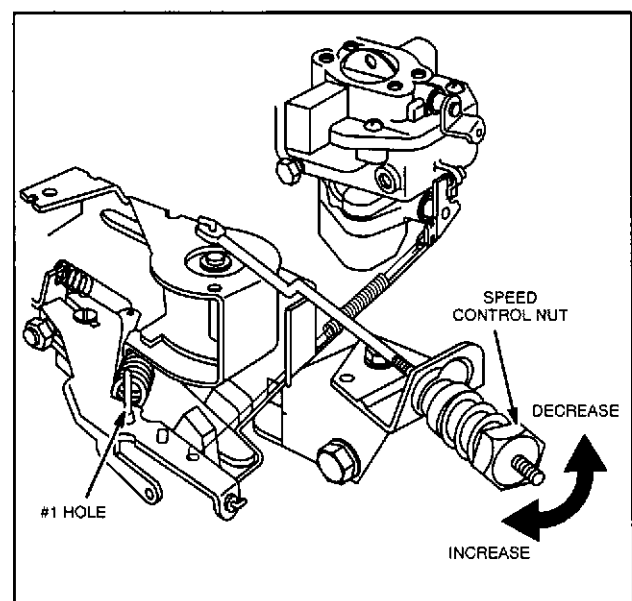

Fig. 18 - Governor Adjustment, Fixed Speed
4. While checking engine RPM with tachometer, turn fixed speed adjustable control nut clockwise until desired Top No Load RPM is obtained, Fig. 18.